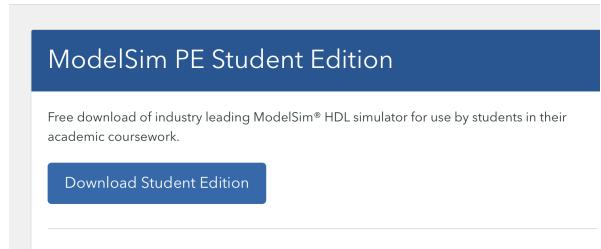

Figure 1.1:Download Student Edition
- 2) Click on the 'Download Student Edition' button (Figure 1.1).